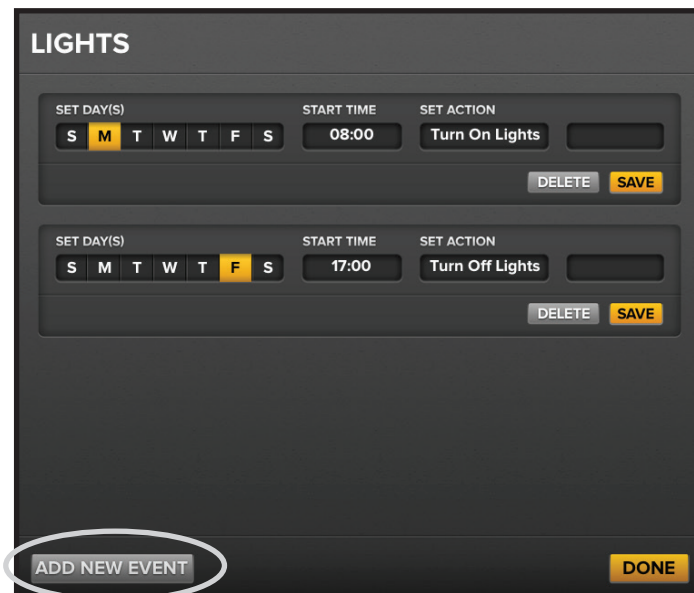

Figure 4—Lights scheduling page
3. Next to Schedule Changes, touch **Edit**. The scheduling page appears (Figure 4).
4. If necessary, at the bottom of the scheduling page, touch **Add New Event** (Figure 4).
5. Set the day(s) of the week on which the event will occur, the start time for the event, and the event action (**Turn On Lights** or **Turn Off Lights**) (Figure 4).